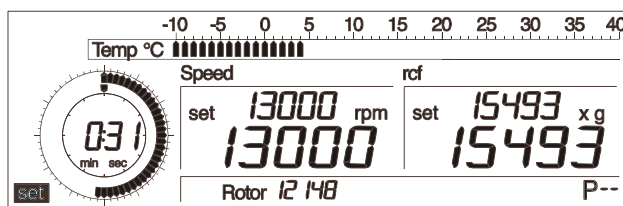

Fig. 5.10: Setting the time
- Turn the left rotary knob until "set" appears in the lower left area of the display (Fig 5.10).